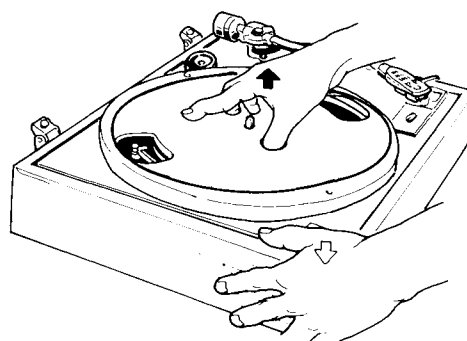

Fig. 16
3. Pull the turntable platter straight up with two fingers inserted into the turntable platter's two openings (Fig. 16).